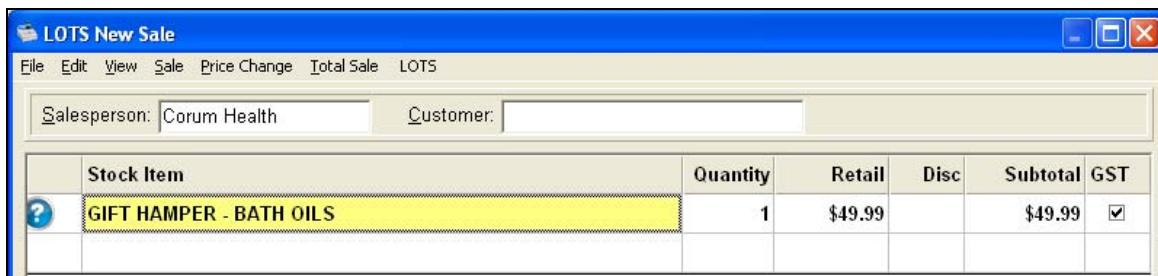

Figure 19
2. You will be able to type anything into the stock item field without the 'Stock Search' window appearing. Also the unlisted item icon will appear to the right of the product you have entered (see Figure 19).